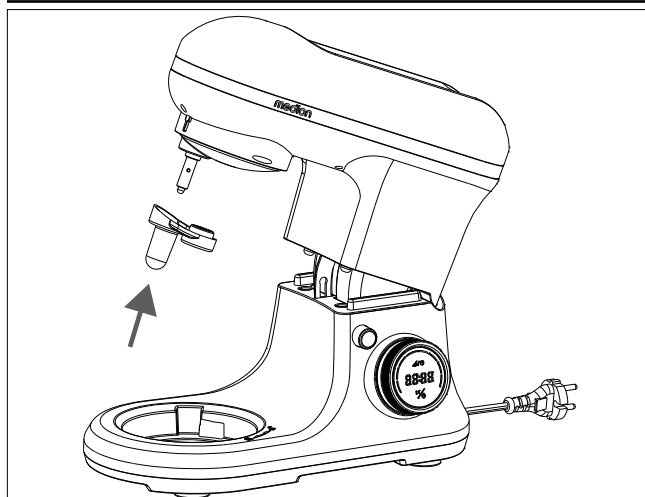

Fig. 8 – Attaching connecting piece
- ▶ Place the connecting piece on the holder on the swivel arm (see Fig. 8).